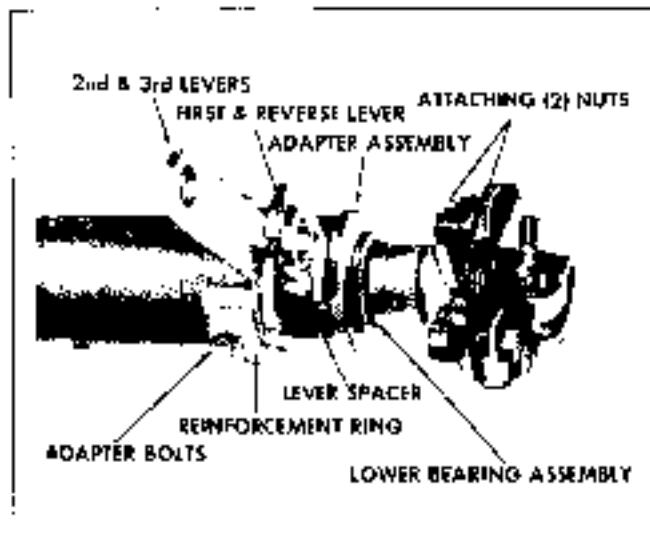

Fig. 9-18 Lower Shift Levers and Adapter (Pontiac Show)
6. Remove the three bolts and the alignment plate just above the lower gearshift levers (see Figure 9-18).